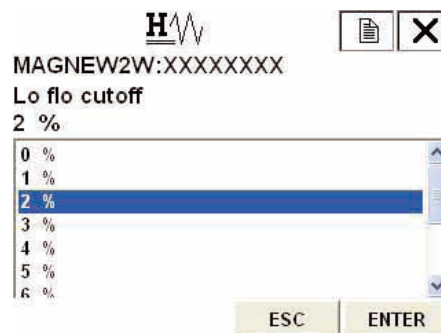

Figure 7-26
Figure 7-26 will then be displayed.
2. Once the display as shown in Figure 7-26 appears, move the arrow key up or down to select low flow cut value. Value can be specified from 1% to 10%. After making a selection, press F4(ENTER). If F3 (ESC) is pressed here, the selection will be canceled and the display will return to the Noise immunity menu.